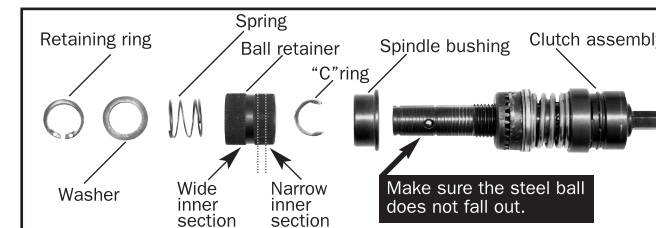

Fig. 4
3. Using an external circlip plier remove the retaining ring. The washer, spring and ball retainer can now slide off the clutch assembly. Make sure the steel ball does not fall out. Using pliers, the "C" ring can be pulled off allowing the spindle bushing to be removed (See fig. 4).